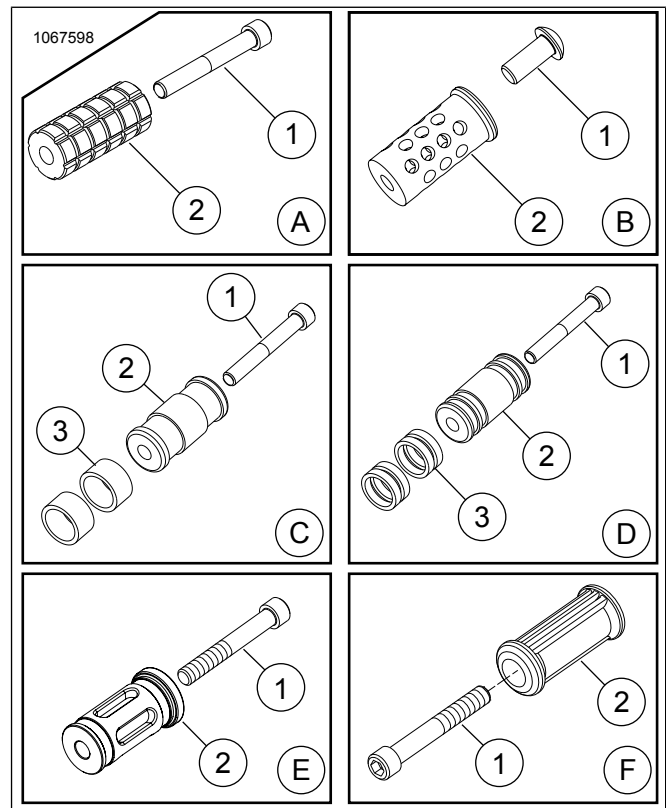

Figure 1. Service Parts: Billet Shifter Peg Kits
See Figure 1 and Table 1.
2. See Figure 1. Discard retainer holding the screw on the new shifter peg.